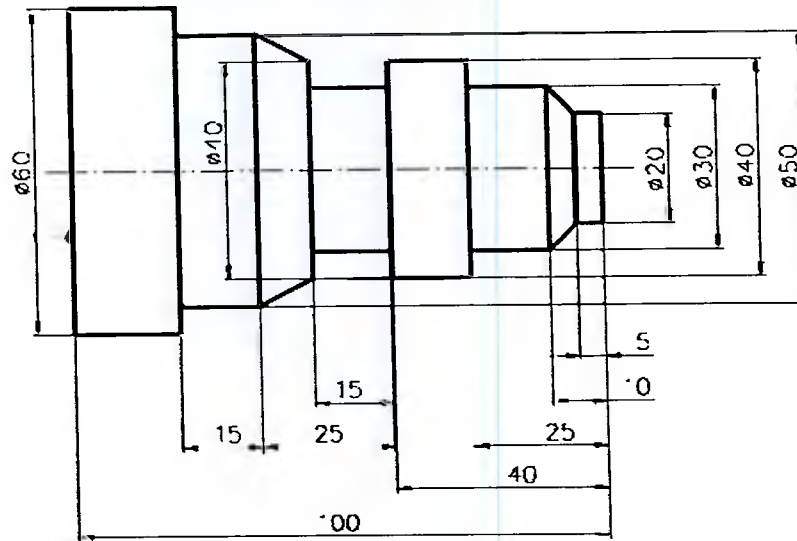

Fig. 2
- Q.4 Write NC programme for turning of the job shown in fig. 2. All dimensions are in mm. Assume the raw material size of 65 mm diameter and 105 mm length.